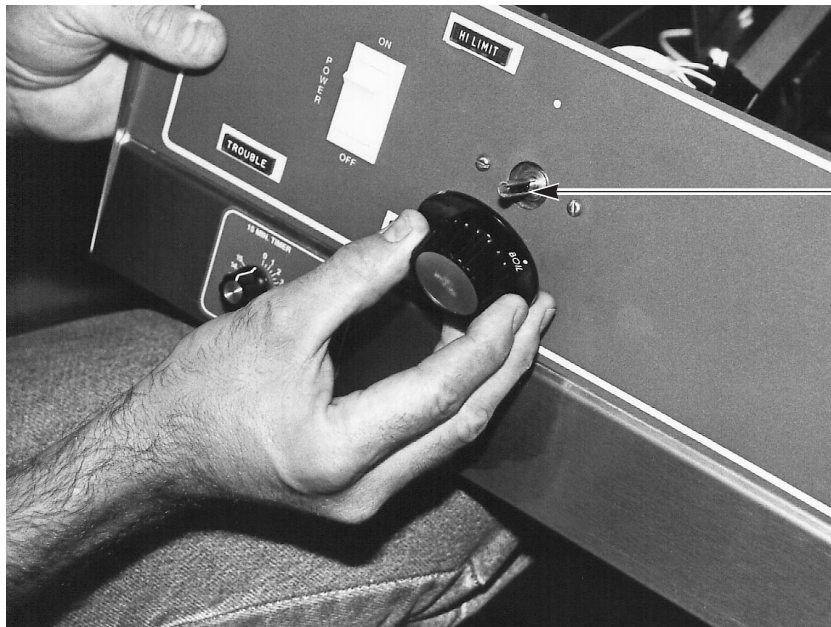

Fig. 2
4. Remove temperature dial knob and insert flat head screw driver into the thermostat shaft rotating the thermostat adjustment screw to match pyrometer reading to 225 degrees F. at the dial boil setting. Turn clockwise to increase and counterclockwise to decrease setting. One quarter turn will change the temperature by 18 degrees. (Fig. 2)